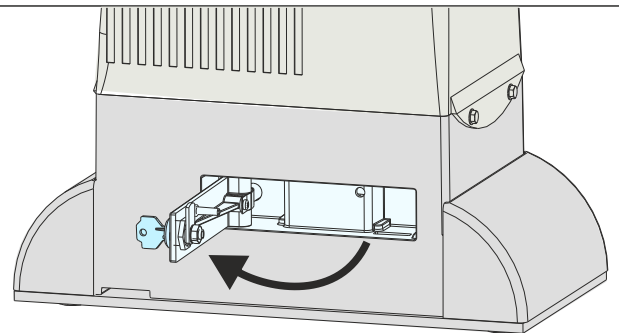

Fig. 35
- Pull the release lever until it stops, about 90° - Fig. 35